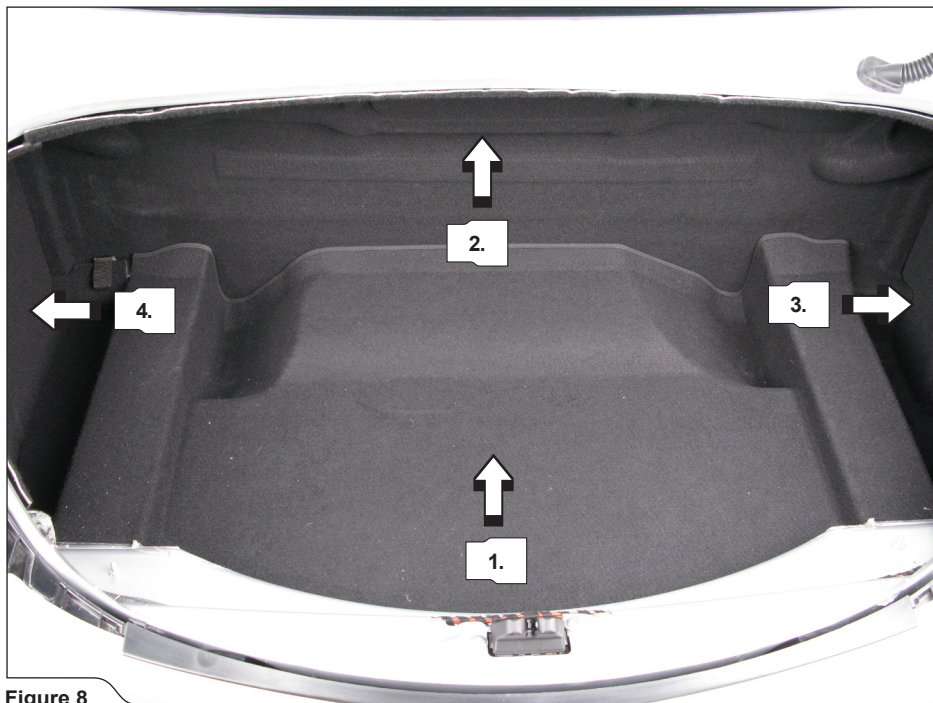

Figure 8
7. Carefully remove trunk covering in the exact sequence and disconnect marked electrical connectors (Figure 8, 9).